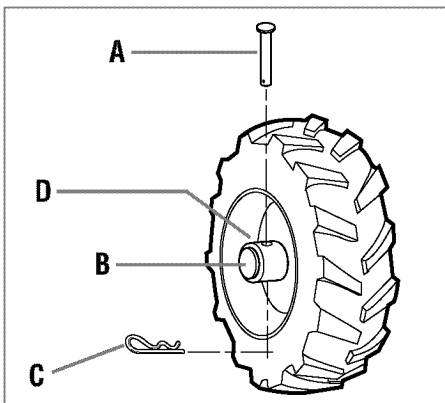

Figure 3-2: WHEEL DRIVE position.
Each wheel is equipped with a Wheel Drive Pin (A, Figures 3-2 and 3-3) that secures the wheel to the wheel shaft (B). The wheels can be positioned in either a WHEEL DRIVE or a FREEWHEEL mode.
Figures 3-2 and 3-3) by removing the hairpin cotter (C).
4. FOR WHEEL DRIVE mode (Figure 3-2): Slide the wheel outward and align the holes in the wheel hub (D, Figure 3-2) and the wheel shaft (B). Insert the wheel drive pin (A) through the wheel hub and the wheel shaft. Secure the wheel drive pin with the hairpin cotter (C) by pushing the hairpin cotter in as far as it will go. Repeat for the other wheel and then remove the support from beneath the transmission.